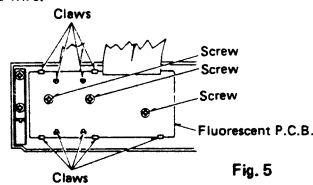

Fig. 5
5. Also remove the 3 setscrews of the P.C.B., and release the 9 claws. (Fig. 5)